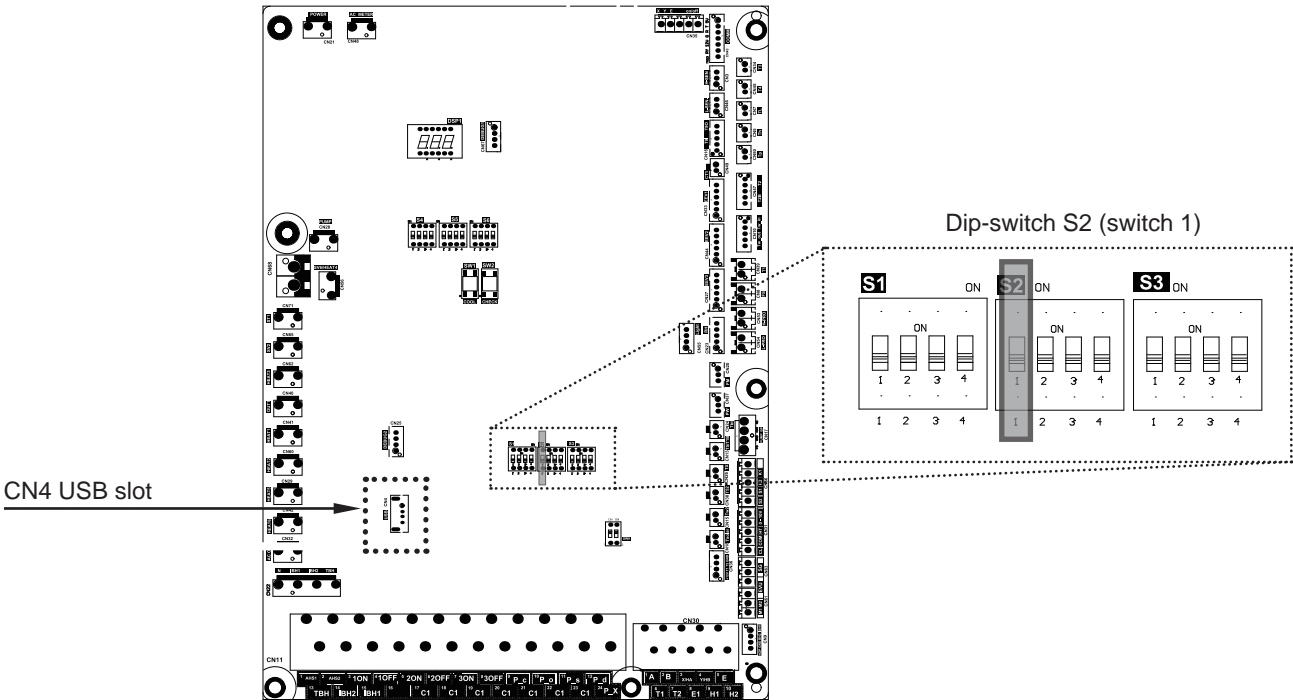

Figure 49. Outdoor PCB
- 3. **Make sure that DIP switch S2 (switch 1) is set to the ON position, see Figure 49.**
3. **Make sure that DIP switch S2 (switch 1) is set to the OFF position, see Figure 49.**
- 2. On the Outdoor PCB (Figure 49) insert the USB stick (provided) into the slot marked CN4 USB.